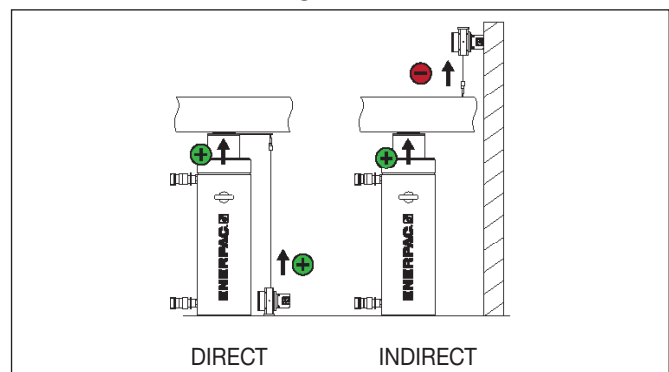

Figure 83: Direct and Indirect Layout
1. Position sensor scale: Depending on where the stroke sensor is placed, the user must select between direct or indirect movement. When the cylinder’s plunger movement and the stroke sensor’s wire are extending (positive movement), the movement is called direct. When the cylinder is extending but the stroke sensor wire is retracting (negative movement) the movement is called indirect. Refer to Figure 83 for further details.